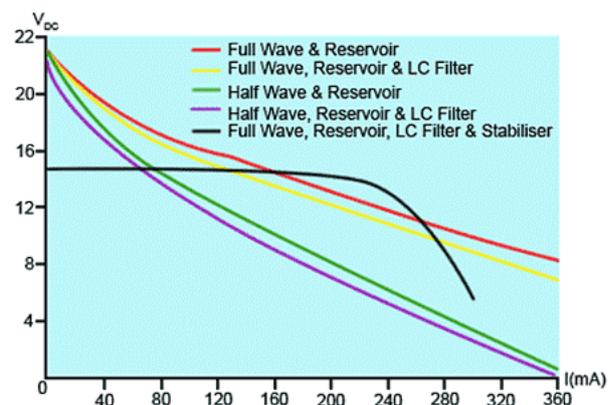

Fig. 1.3.1 Regulation Curves Compared
The effect of poor regulation (or stabilisation) of the supply can be seen in Fig. 1.3.1 which shows graphs of output voltage (V_{DC}) for increasing load current (I) in various versions of a basic power supply.
These problems can be largely overcome by including a regulator stage at the power supply output. The effect of this circuit can be seen in Fig. 1.3.1. as the black line on the graph, where for any current up to about 200mA the output voltage (although lower than the absolute maximum provided by the basic supply) remains constant.